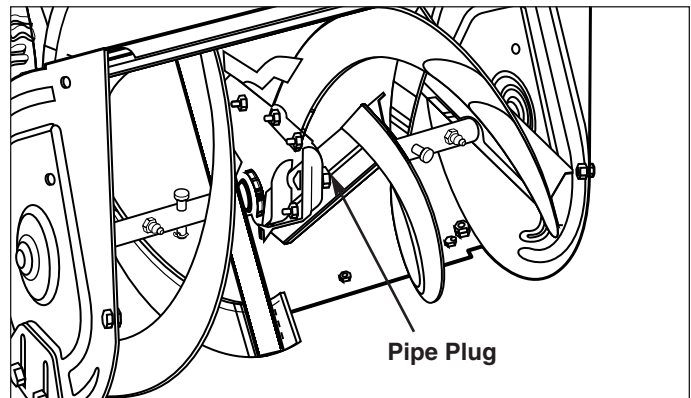

Figure 9. Auger Lubrication
2. Remove the pipe plug (A, Figure 9).